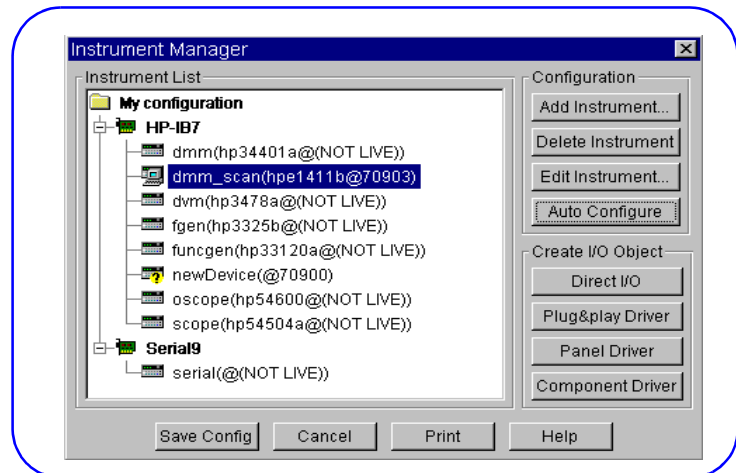

Figure 38. Typical HP VEE Instrument Manager Display
- 5 Click OK to send *IDN? to the HP E1411B. If the query is successful, instrument communication is verified and the instrument model number (hpe1411b) appears (see Figure 38).